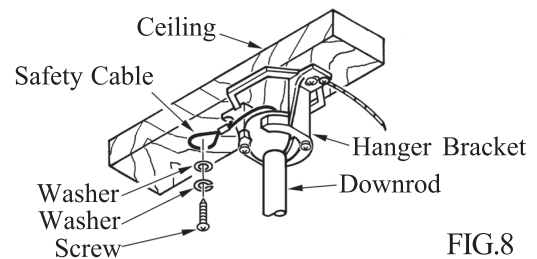

FIG.8
3. Install the safety cable into the building structure. (See fig. 8)